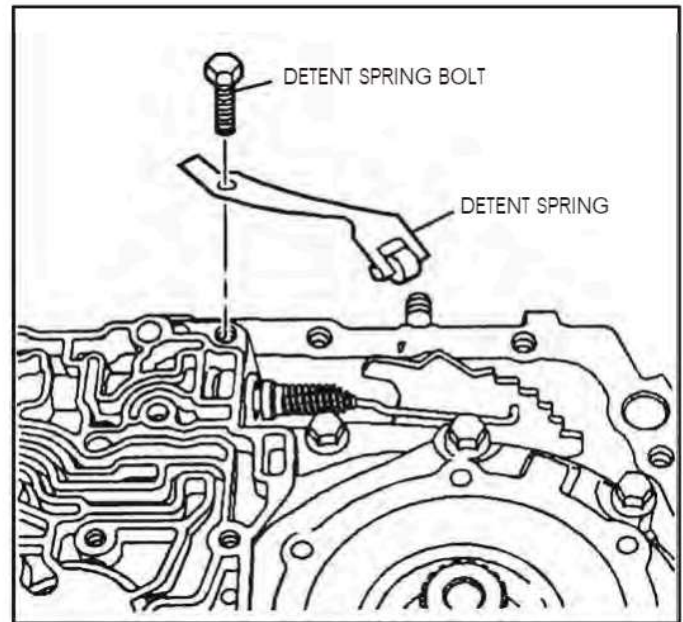

Figure 181
91. Install the manual detent spring and bolt, as shown in Figure 181 and torque the bolt to 11 N.m (97 lb.in.)